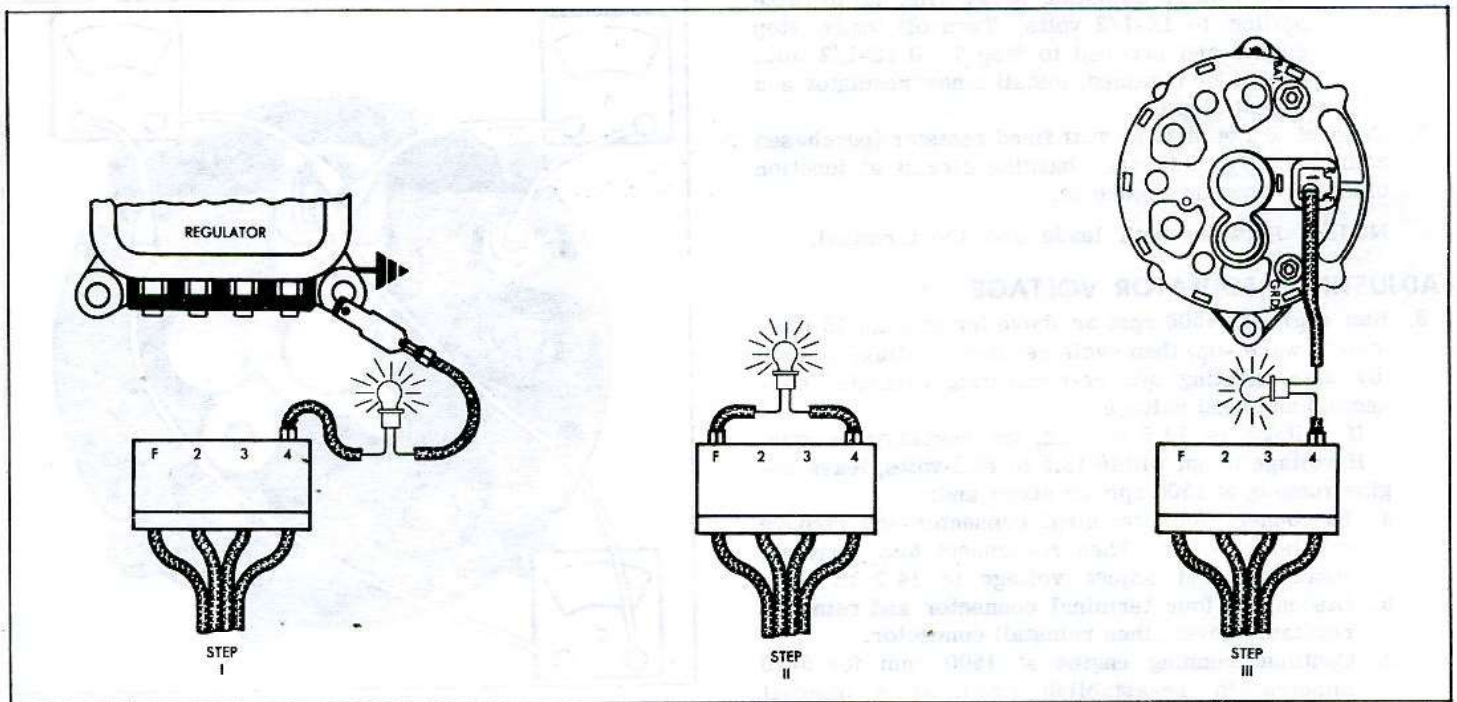

Fig. 8c—Indicator Lamp Circuit Tests
The indicator lamp circuit (fig. 8c) provides initial field excitation (causing lamp to glow). The light is cancelled by closing the field relay which applies battery voltage to both sides of bulb (bulb goes out).
- Disconnect connector from regulator and connect a jumper lead from connector terminal "4" to ground (fig. 8c, Step 1). Turn ignition switch to "ON" momentarily and note indicator lamp:
2. Disconnect jumper lead at ground end and connect between connect "F" and "4" terminals, (fig. 8c, Step 2) then turn switch to "ON" momentarily and note lamp:
3. Disconnect jumper at connector "F" terminal and connect "F" terminal on Delcotron (fig. 8c, Step 3), then turn switch on momentarily and note lamp: